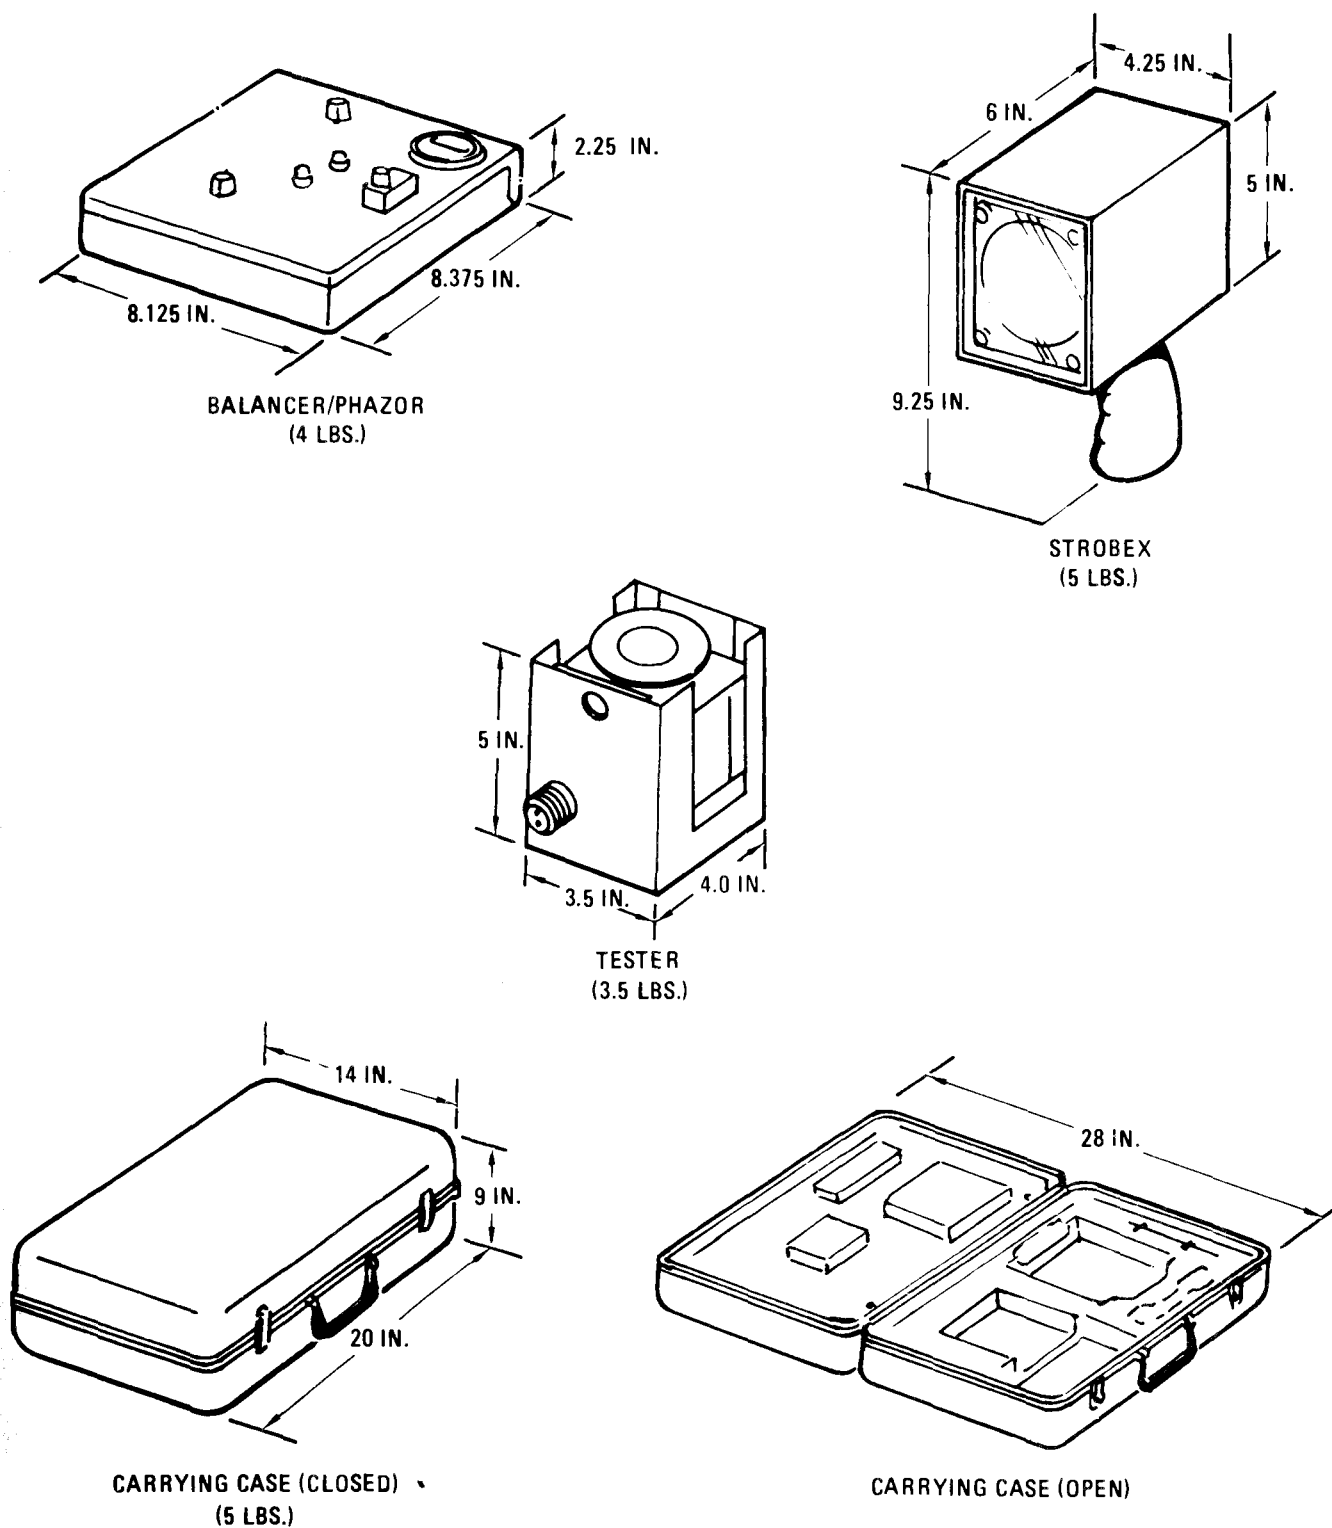

Figure 1-5. VIBREX Dimensions
**1-4. Leading Particulars.** Table 1-2 provides the leading particulars that consist of the VIBREX main features, specifications, characteristics, and physical dimensions. Figure 1-5 shows the physical dimensions and weights.